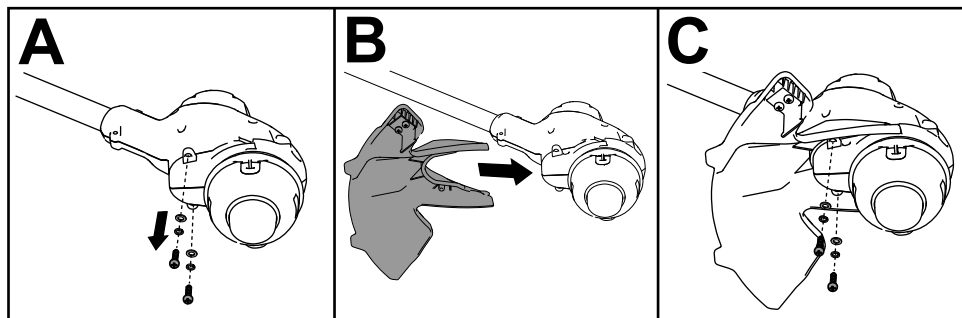

Figure 5
1. Remove the 2 socket head screws, 2 washers, and 2 spacers from the trimmer base (A of Figure 5).
2. Align the guard onto the trimmer base (B of Figure 5).